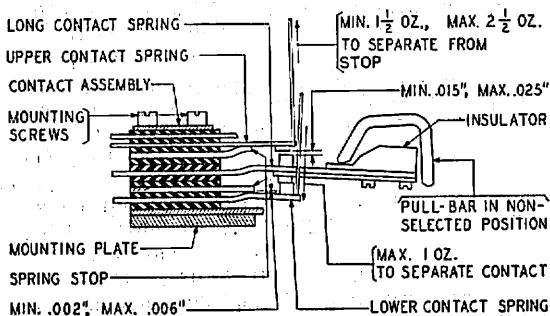

Fig. 27
- (c) There should be Min. .015", Max. .025" clearance between the long spring contact and the upper spring contact. **Fig. 27**
(1) To gauge:
- (d) It should require Min. 1-1/2 oz., Max. 2-1/2 oz. to separate the upper contact spring from its stop. **Fig. 27**
- (f) There should be Min. .002", Max. .006" clearance between the lower contact spring and its stop. **Fig. 27**
(g) It should require Max. 1 oz. to separate the lower spring contact from the long spring contact. Fig. 27